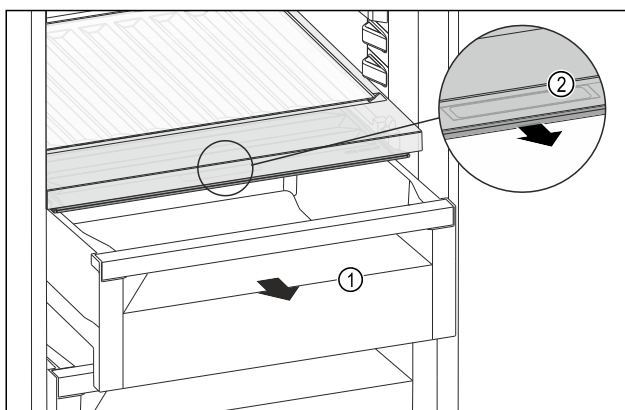

Fig. 111
- Pull out the drawer Fig. 111 (1).
- Grasp the recessed grip Fig. 111 (2) on the compartment lid and pull the compartment lid forwards at the same time.